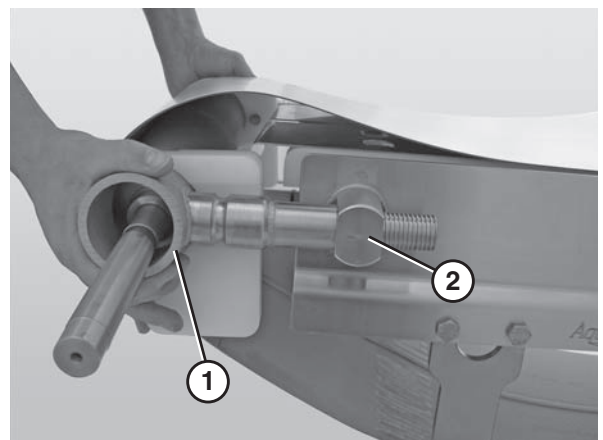

Figure 61
6. Slide the drive tail assembly (**Figure 61, item 1**) out of the take up blocks (**Figure 61, item 2**).